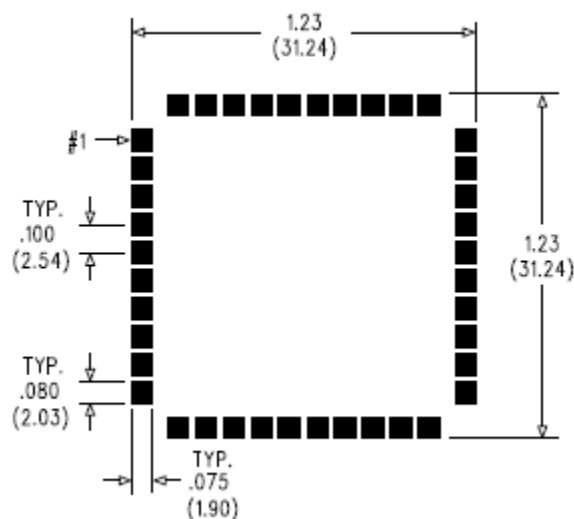

Figure 8: Recommended PCB Pad Landing
- The recommended PCB footprint is 1.23" x 1.23" (see Figure 8: Recommended PCB Pad Landing). For mechanical drawings, see Appendix B – Mechanical Drawings.